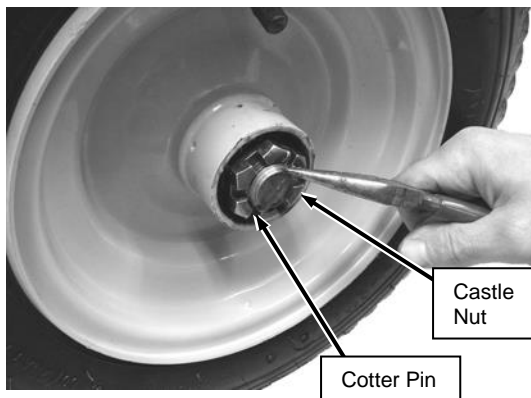

Figure 60
3. Using pliers remove the Cotter Pin and back the Castle nut off (**Figure 60**).